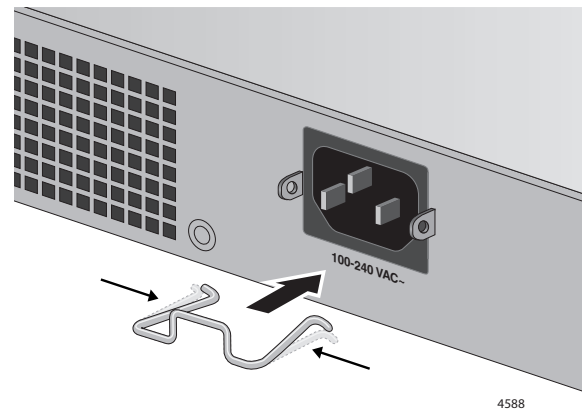

Figure 64. Installing the Power Cord Retaining Clip
1. Install the power cord retaining clip on the AC power connector on the rear panel of the switch. Refer to Figure 64.